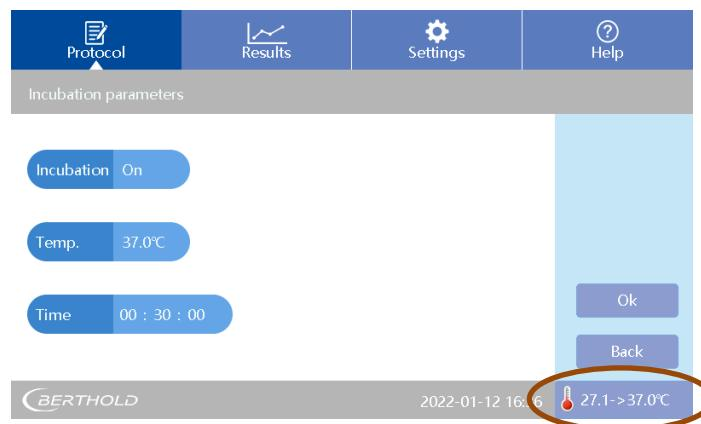

Fig 34: Incubator settings
1. Click into the lower right corner of the protocol interface, showing the incubator status (usually set to <Off>), to enter the incubator setting interface. See Fig 34